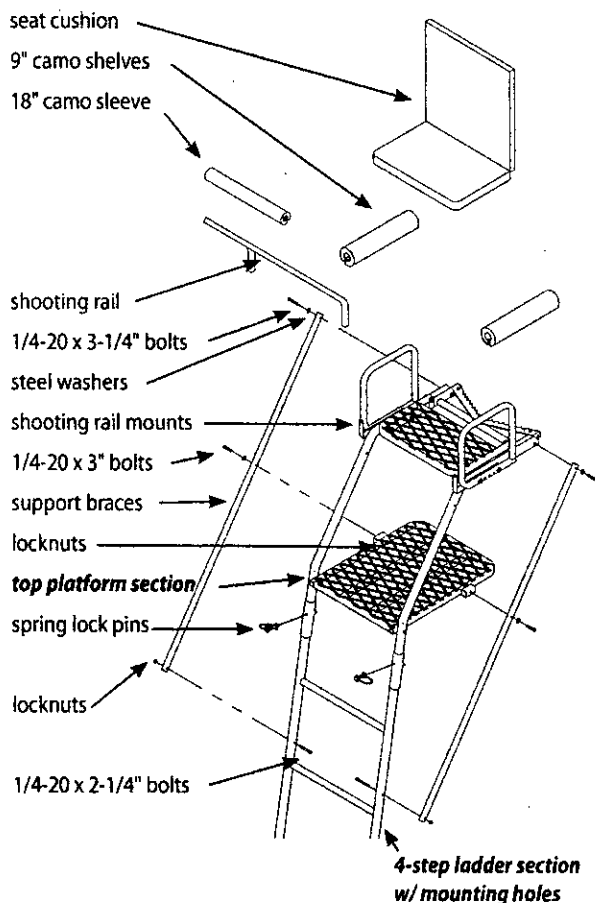

Figure 3
4. Insert the assembled top platform section into the top ladder section with mounting holes (SL54). Attach the (2) support braces (48064) to the outside of side rails, foot platform and 4-step ladder section with mounting holes using (2) provided 1/4-20 x 3-1/4" bolts, (2) 1/4-20 x 3" bolts, (2) 1/4-20 x 2-1/4" bolts, (4) steel washers and (6) locknuts. **SEE FIGURE 3. You must now tighten all nut & bolt assemblies. Be sure not to over tighten or crush tubing when tightening!**
5. Attach the shooting rail (SR10) by setting rail down over studs on shooting rail mounts. **SEE FIGURE 3. Lubrication is recommended to prevent binding and noise.**
- b. Attach the (2) provided 9" camo sleeves to the armrests and (1) 18" camo sleeve to the shooting rail by wrapping around metal tubing and attaching Velcro together.
7. The remaining (2) ladder sections are assembled to the top ladder assembly on the ground in the following order: bottom section (SL51 ladder); second section (SL52 ladder); third section (SL54 ladder); top section (assembled top platform section). **SEE FINISHED 17' TIMBERSHOT EXTREME LADDER.**
8. With all sections assembled together on ground, secure all sections together using (6) provided spring lock pins. Handle of spring lock pin must be put to the outside of ladder side rails. **SEE FIGURE 3.**